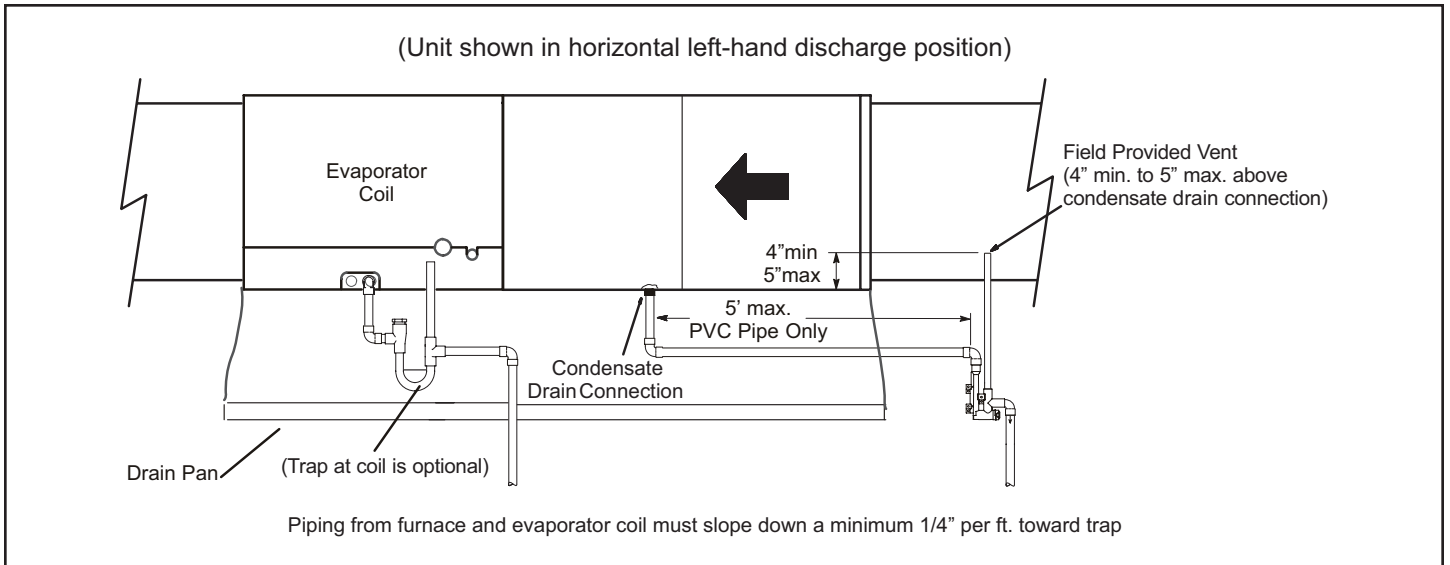
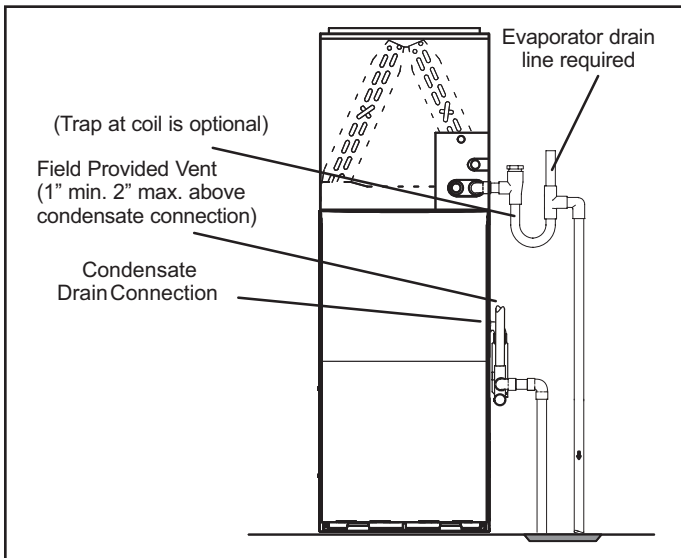
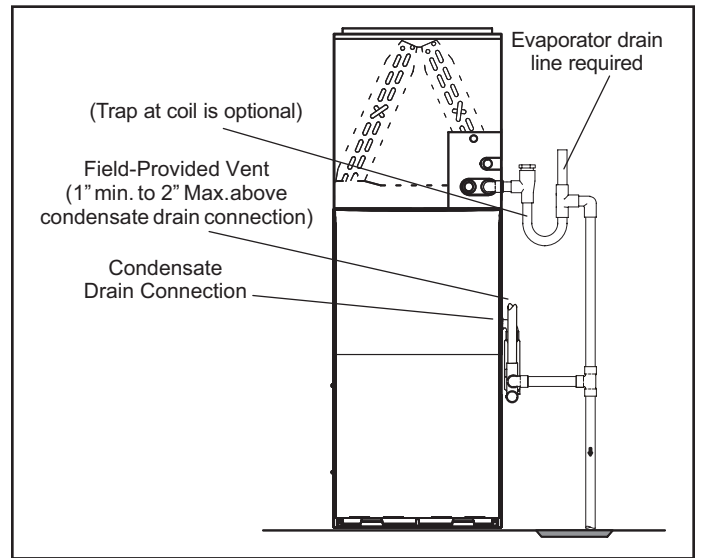
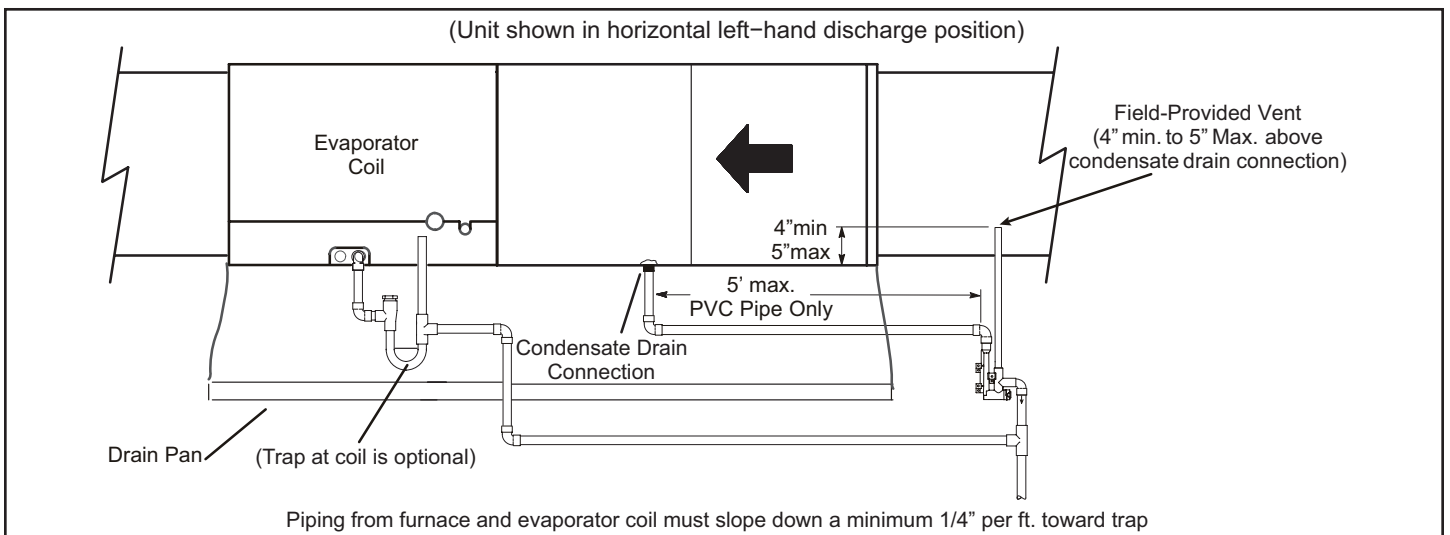

Figure 36. Furnace with Evaporator Coil Using a Separate Drain
Figure 37. Furnace with Evaporator Coil Using a Separate Drain
Figure 38. Furnace with Evaporator Coil Using a Common Drain
Figure 39. Furnace with Evaporator Coil Using a Common Drain
5. Figure 36 and Figure 37 show the furnace and evaporator coil using a separate drain. If necessary, the condensate line from the furnace and evaporator coil can drain together. See Figure 38 and Figure 39.
Horizontal furnace (Figure 36 or Figure 39) - In horizontal furnace applications, the field provided vent must be a minimum 4" to a maximum 5" length above the condensate drain outlet connection. Any length above 5" may result in a flooded heat exchanger if the combined primary drain line were to become restricted.